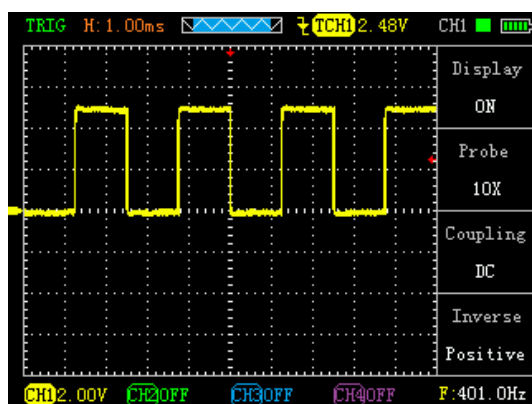

Figure 2-7
- If you set the vertical direction 2.00V/div,press"CH1"→ "▲"or "▼" to adjust the vertical volts / division, press "◀" or "▶" to move up and down the entire waveform. As Figure 2-7